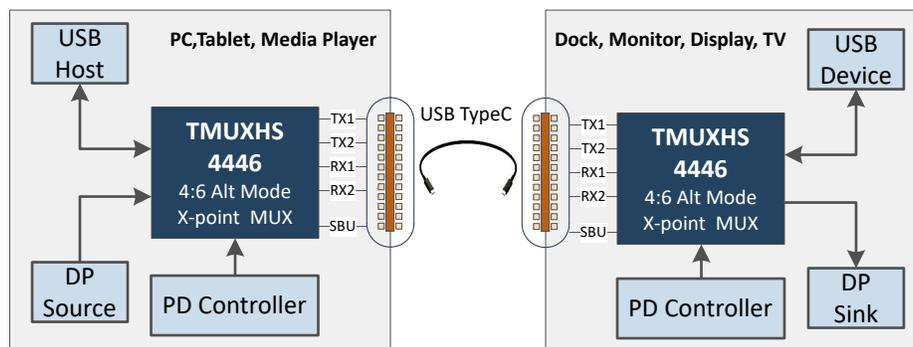

Figure 7-1. TMUXHS4446 in USB Type-C Source and Sink Applications
The crosspoint selection of the device is typically configured by a USB power delivery (PD) controller by an I²C interface. The TMUXHS4446 is an analog mux which can be used in USB Type-C ecosystem with DP as alternate mode in two distinct application configurations: one is for DP Source/USB Host, the other one for the DP Sink/USB Device/Dock. Figure 7-1 shows a typical application block diagrams for these two cases: left source and right sink.